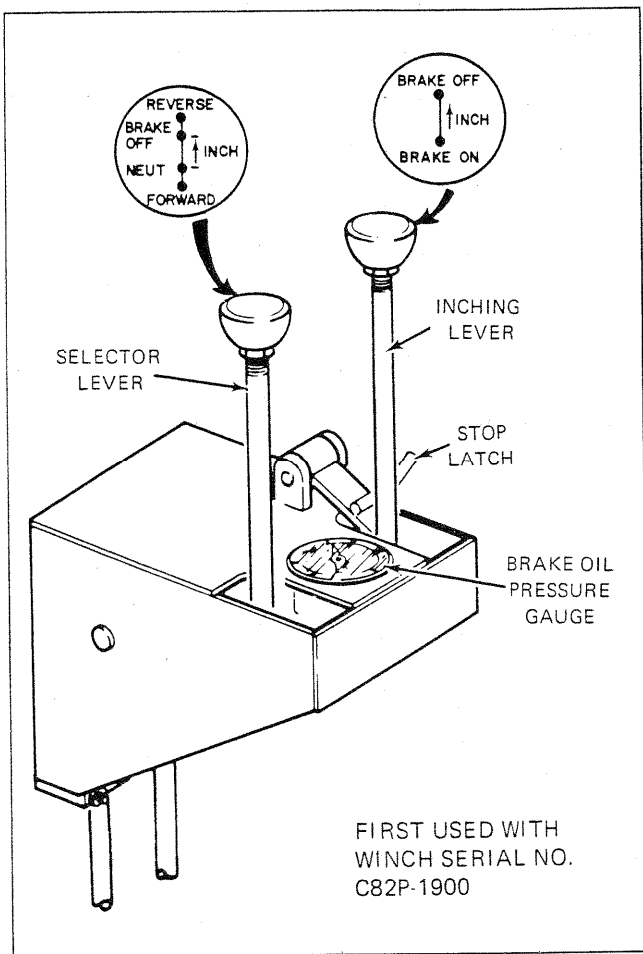

FIGURE 2-3. OPERATING CONTROLS, LATER PRODUCTION POWER CONTROLLED WINCH
2-18. LATER PRODUCTION HANDLING GEAR. (See Figure 2-3.) There are two different shift patterns that can be selected for winch operation. These are Normal Control and Fine Inching Control. The Normal Control shift pattern should be used for routine or normal operation encountered in logging and heavy construction. The Fine Inching Control should be used in: (1) Pipelining for positioning pipe and lowering backhoes, (2) Oil field work in rigging wells, towing and leveling derricks, and placing pipe, (3) Mining for towing control stations and matching pipe flanges, (4) General Construction for various handling, raising, lowering, towing, yo-yo operations and rescue work. Operating procedures for Normal Control and Fine Inching Control on later production handling gear are contained in paragraphs 2-17 and 2-20.